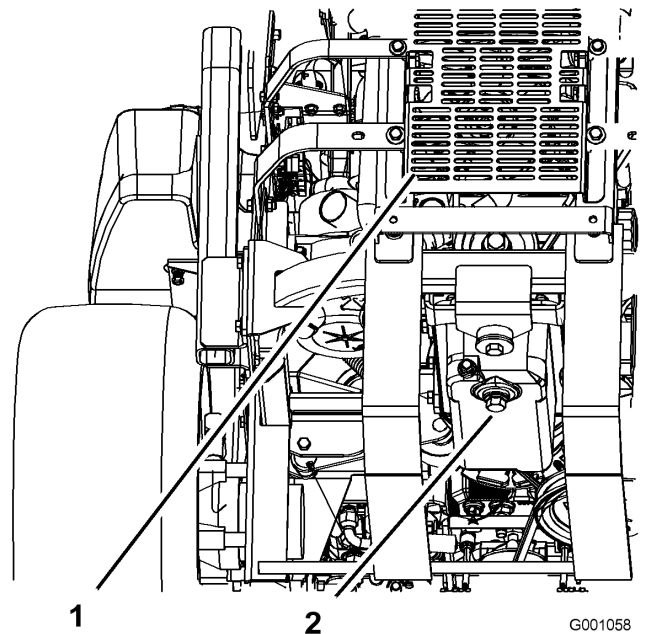

Figure 35
5. Place a pan below the oil drain. Remove the drain plug and let the oil drain completely (Figure 35).